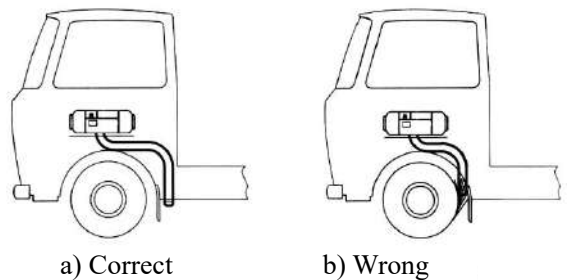

Fig.26
4.6.5 Arrangement of the pipes shall protect the pipe openings from blocking by slurry, rain and snow or other dirt. (Fig. 26)